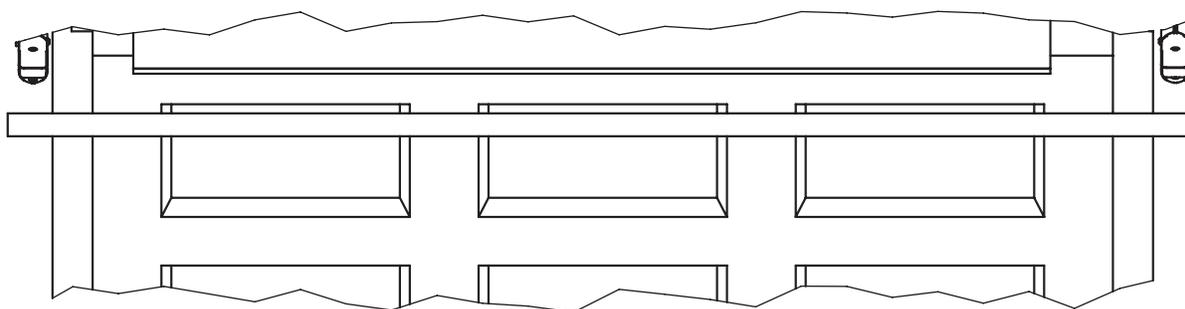

Figure 26-2
- 10) **Figure 26-2.** Insert cross arm through the pocket in the tarp at the tailgate; center and place on the bed.